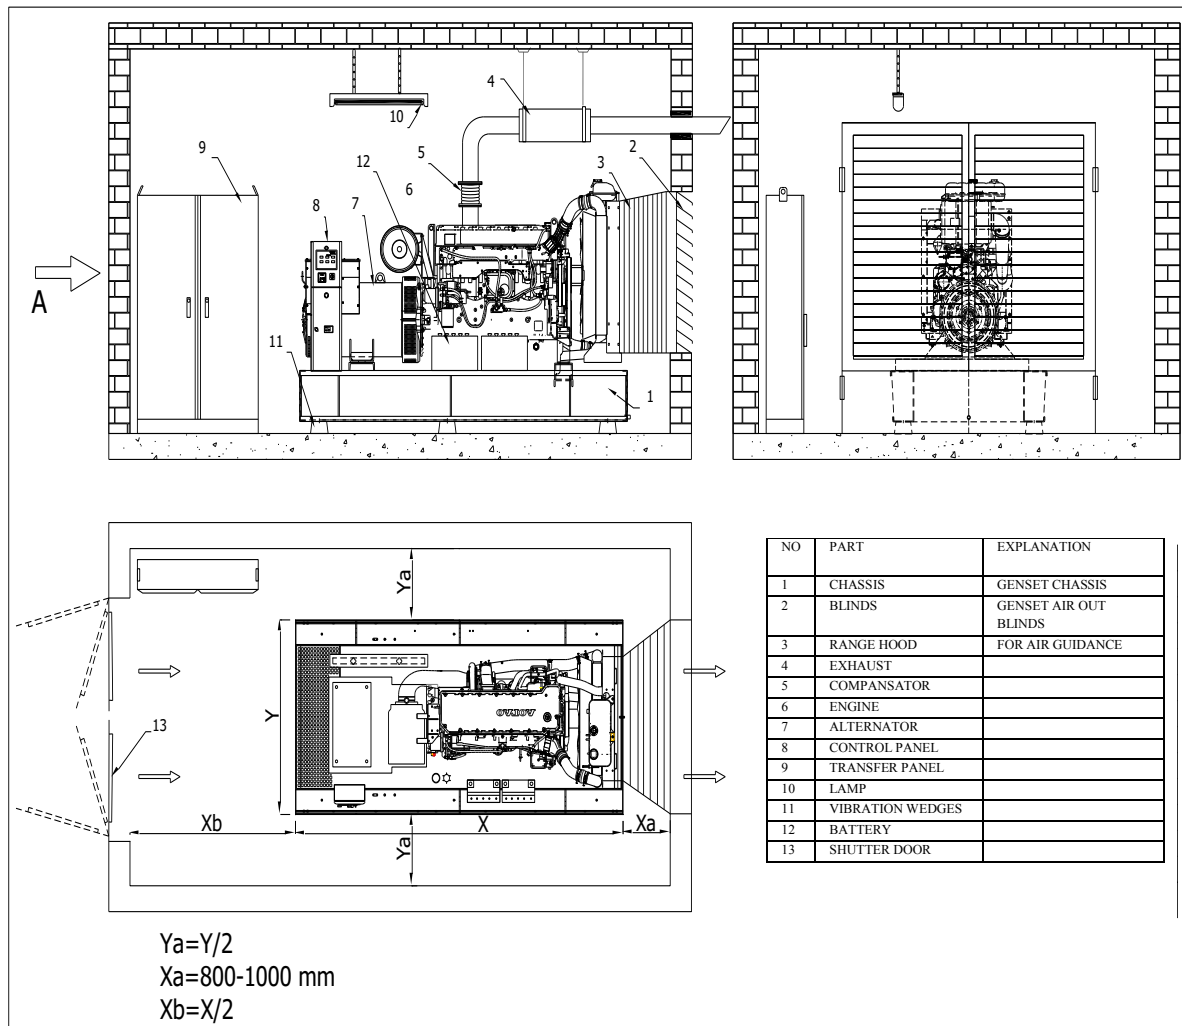

Figure 2
- * The generator group should be installed in a proper way by considering the distance between the generator group and walls as seen in following Figure: 2. The aim is to draw cool air from the possible lowest section of the generator room's walls and push towards the radiator and then put out from generator room.